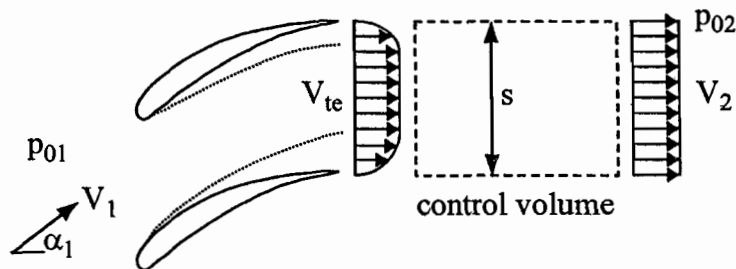

Fig. 3
(b) A stator blade for a low-speed axial compressor has been designed to operate in a uniform inlet flow of stagnation pressure  $p_{01}$ , velocity  $V_1$ , at an angle  $\alpha_1$  and to deliver axial flow at the trailing edge. The thickness of the trailing edge is very small compared to the blade pitch  $s$ . The flow can be assumed to be two-dimensional and incompressible with density  $\rho$ , and it may be assumed that just downstream of the blade trailing edge the static pressure  $p_{te}$  and the velocity outside of the boundary layers  $V_{te}$  are uniform. In Fig. 3 the blade is shown operating at its design flow conditions:
- (iii) By applying an appropriate conservation law to the flow through the control volume identified in Fig. 3, show the following: